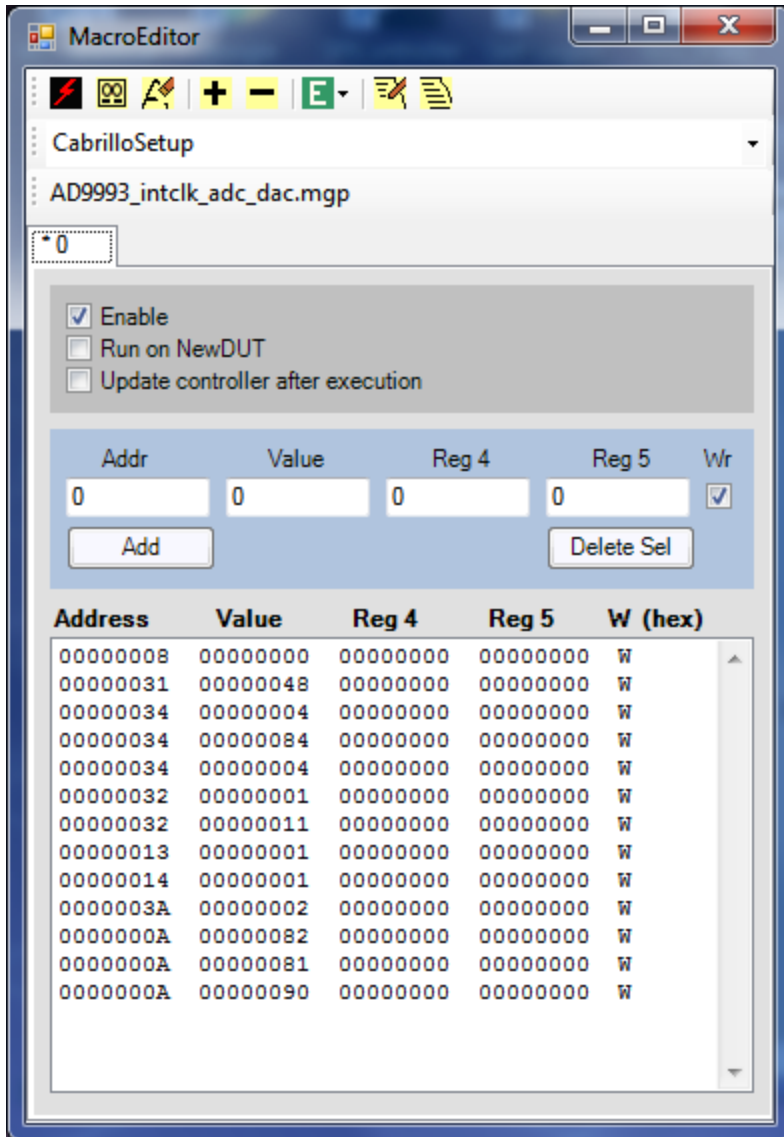

Figure 7. SPI Controller MacroEditor Window
- d. Press the red run macros button in the upper left hand corner of the MacroEditor window. See Figure 7.